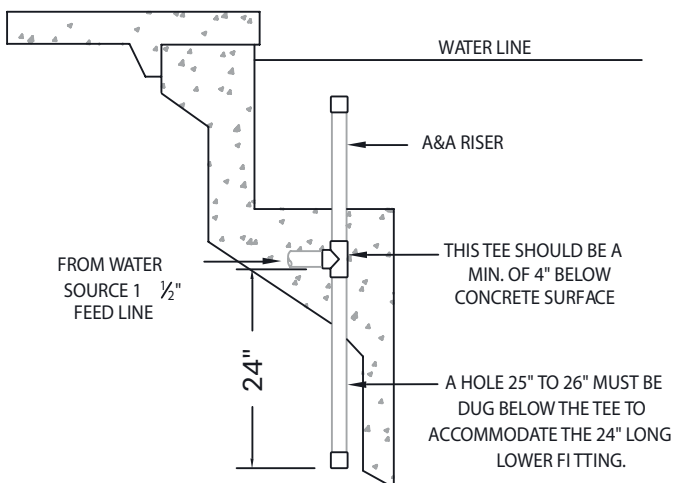

Figure 1
1. Determine the location of each Splash Down fountainhead and dig the necessary trenches to accommodate the 1½" feed lines to the fountainheads. Dig a **vertical** hole at least 25" to 26" deeper than the trench to accommodate the 24" long lower fitting. (See Figure 1) **NOTE:** Do not place a fountainhead any closer than 6" to the edge of a bench or shelf.